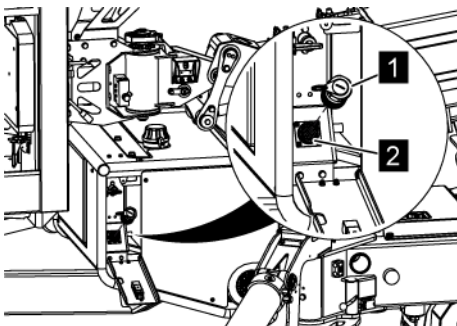

Fig. 42: Bypass plug connector
2. → Unfasten the bypass plug connector (Fig. 42/1) by turning it anti-clockwise and disconnect it.
During operation, the socket (Fig. 42/2) must be occupied by either the bypass plug connector (Fig. 42/1) or the cable remote control as operation is otherwise not possible for reasons of safety.
3. → Insert the plug connector of the cable remote control into the socket (Fig. 42/2) and tighten it by turning it clockwise.